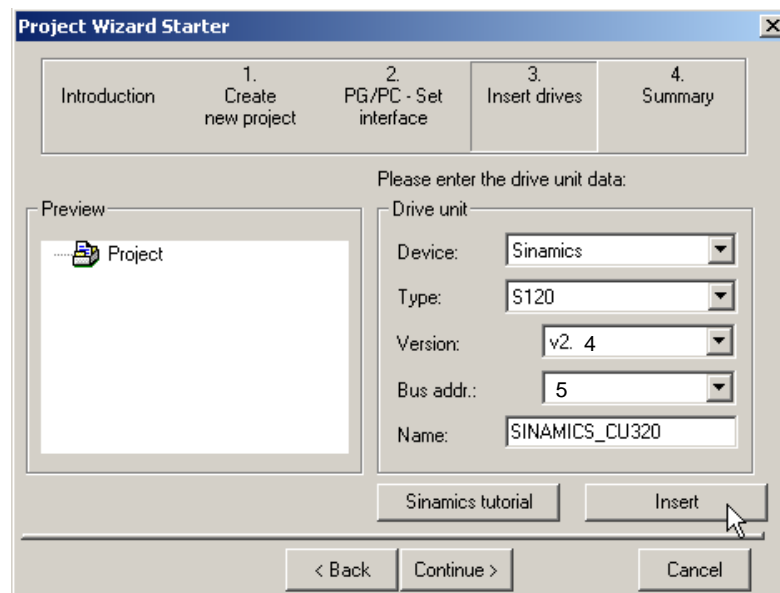

Fig. 3-10 Inserting the drive unit
14. Add the following (see Fig. 3-10):